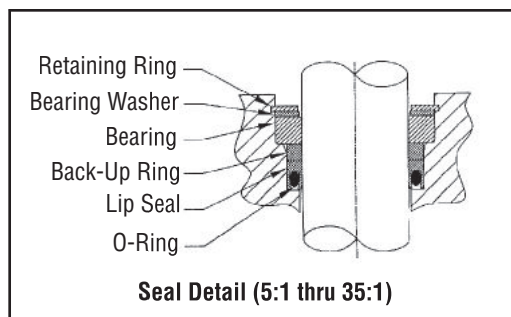

Fig. 10a
- 10.** Remove high pressure seal assembly from recess within high-pressure body. Seal orientation under back-up ring is as shown. See Figure 10a & 10b.